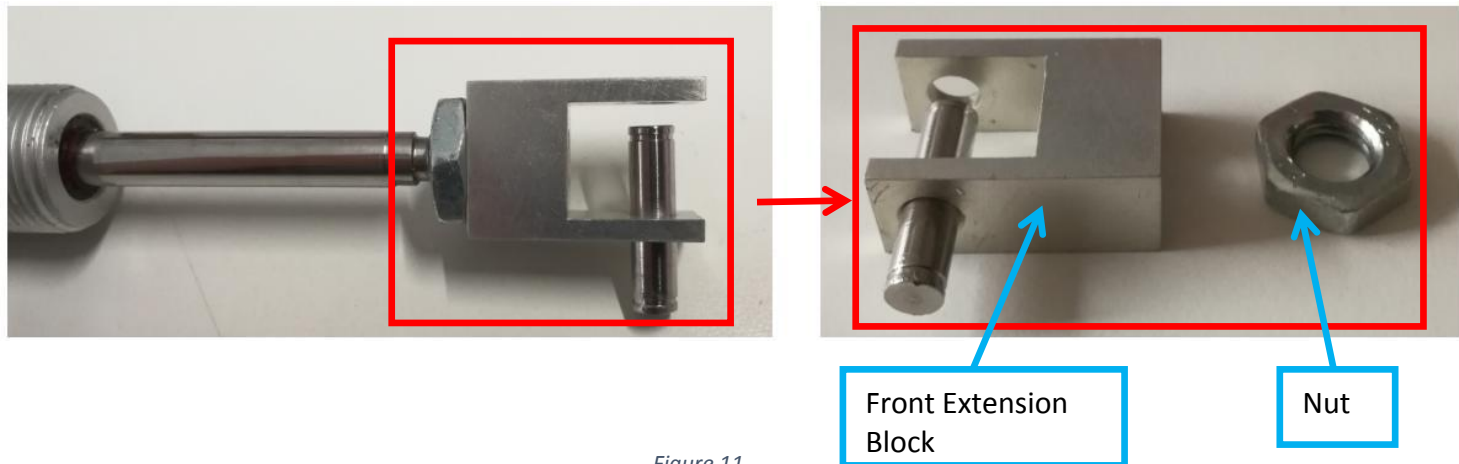

Figure 11
15. Remove Nut & Front Extension Block (With Dowel Pin) as Figure 11.